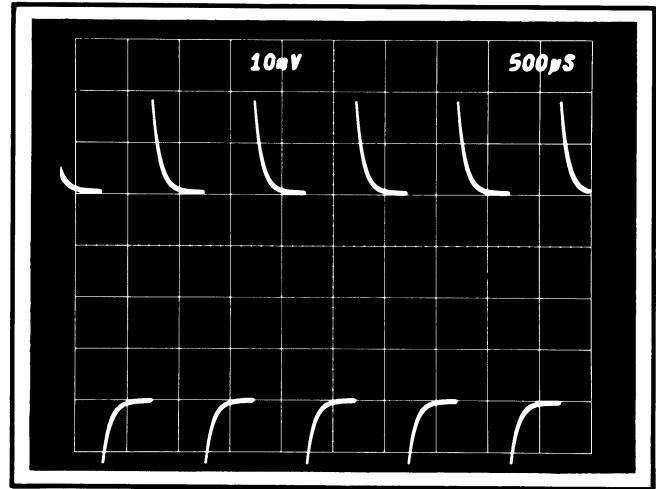

Fig. 5-3. Measurement of the probe overshoot response to a 1 kHz square wave.
4. Check—Overshoot amplitude must equal or exceed 45% of the pulse amplitude or 1.8 division (see Fig. 5-3). This verifies that the probe will compensate to a vertical amplifier input capacitance of 55 pF.